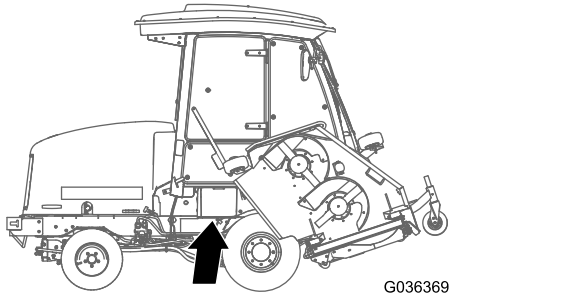

Figure 81
1. Open the battery cover on the side of the shroud (Figure 81).
Note: Press down on the flat surface above the battery cover to ease the removal of the cover (Figure 81).